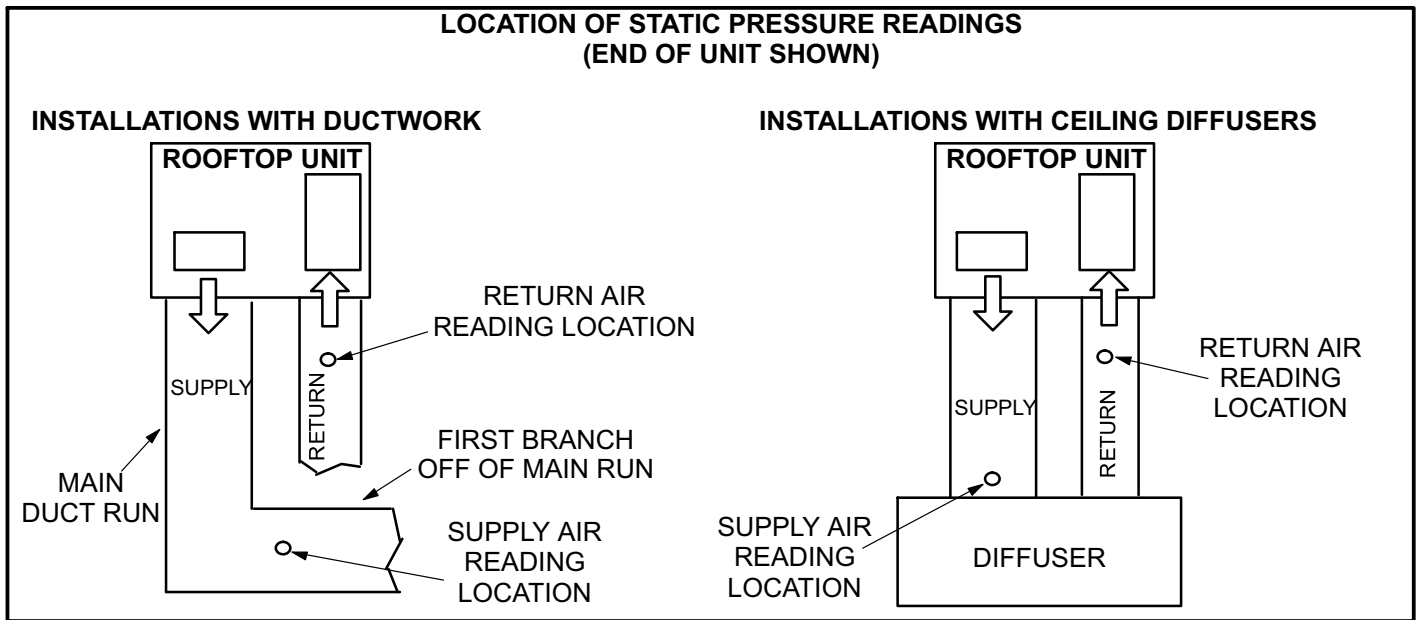

FIGURE 7
- 2- With all access panels in place, measure static pressure external to unit (from supply to return). Blower performance data is based on static pressure readings taken in locations shown in figure 7.